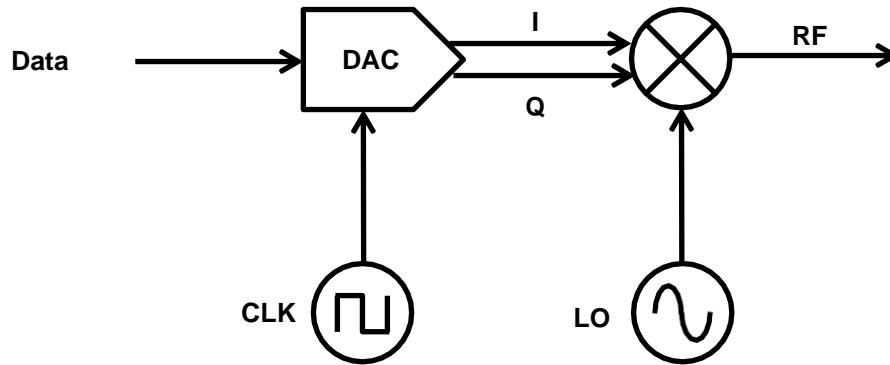
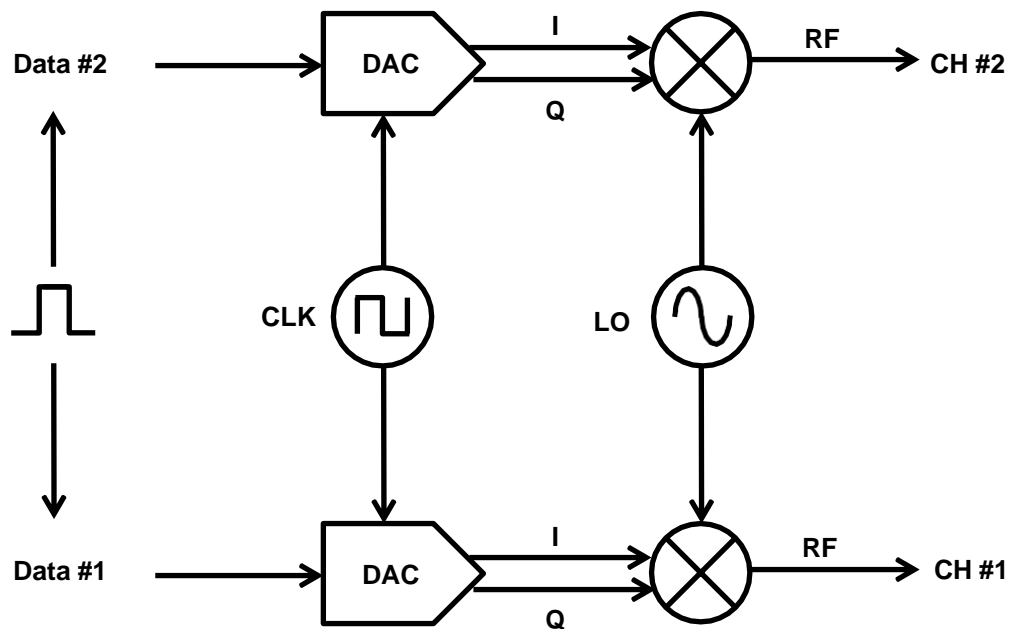

Figure 2. Structure of wireless transmitter using direct conversion
Figure 3. Synchronization between channels
Figure 2 shows the simplified block diagram for a wireless transmitter using the direct conversion method. The primary modulated digital data is converted to the analog I/Q signal using the D/A converter in the baseband section. The analog I/Q signal is converted to the RF signal by direct conversion.
Figure 3 shows the block diagram for achieving phase coherency based on the structure shown in Figure 2. To achieve phase coherency, it is necessary to share the start timing for sending data, the local oscillator (LO), and the sampling clock (CLK) for the baseband signal between channels.